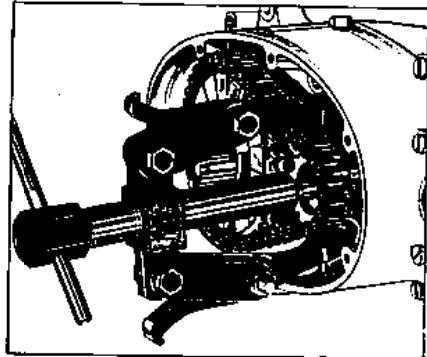

Fig. 27
After releasing circlips remove the clutch pressure plate (3) together with cups (6), springs (5) and washers (7). By means of washer straightener M 15 straighten the washer (9) under the nut (10) of the fixed plate (2). With pipe wrench no. 14 unscrew the nut (10) (fig. 26) and with no. 19 spanner unscrew the nut of the primary wheel. With help of N 9 puller loosen the chain wheel (14) from the crankshaft (fig. 27). The primary wheel, chain and both cork plates (1) and driven plate are to be removed jointly.